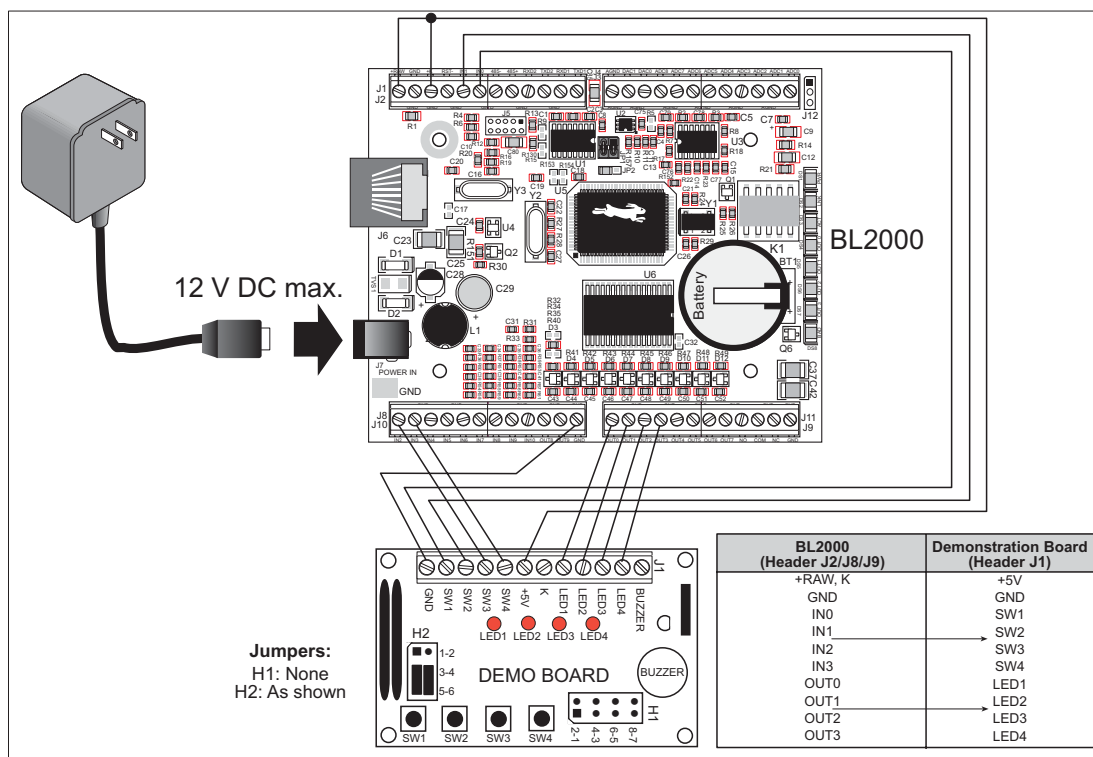
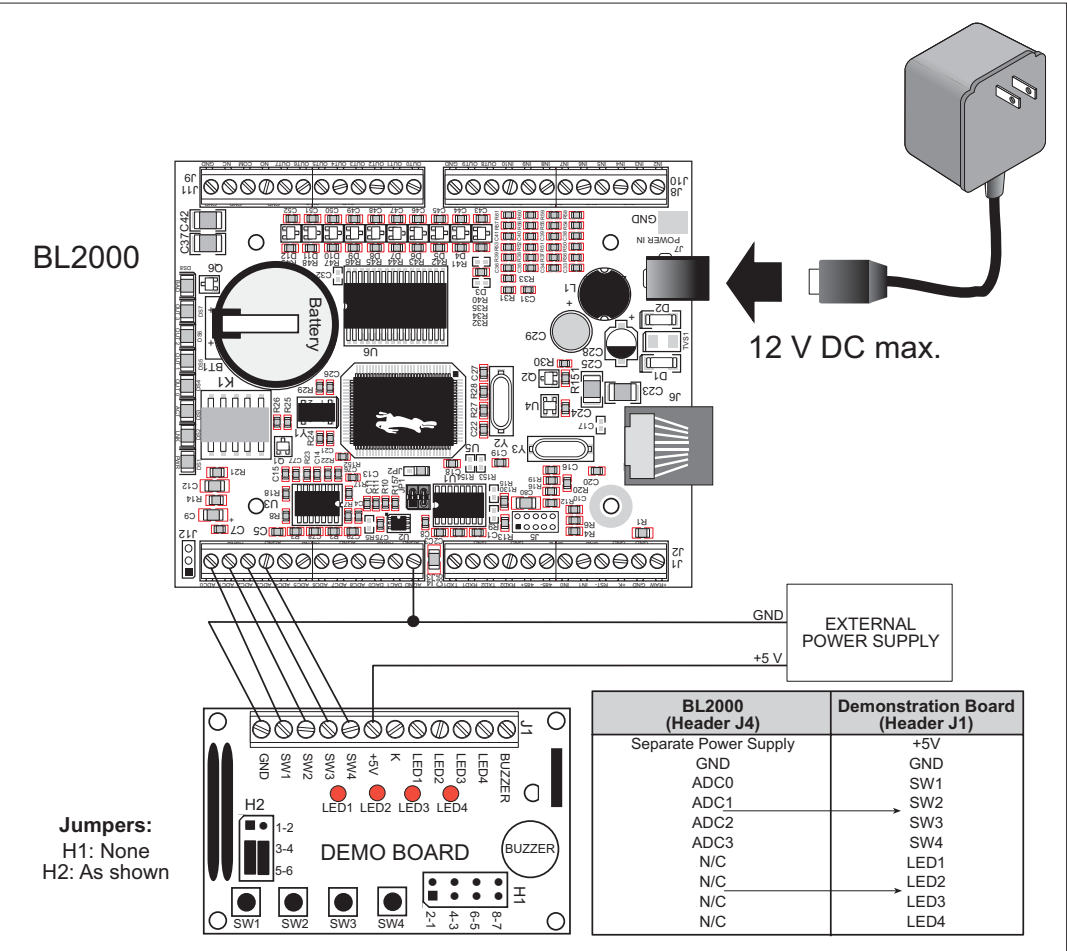

Figure D-1. General Digital Connections Between BL2000 and Demonstration Board
Figure D-2. Analog Connections Between BL2000 and Demonstration Board
1. Use the wires included in the BL2000 Tool Kit to connect header J1 on the Demonstration Board to header J8 and J9 on the BL2000. The connections are shown in Figure D-1 for sample programs **DIGIN.C**, **DIGOUT.C**, and **SMTP.C**, and in Figure D-2 for sample program **ANADIGIN.C**.